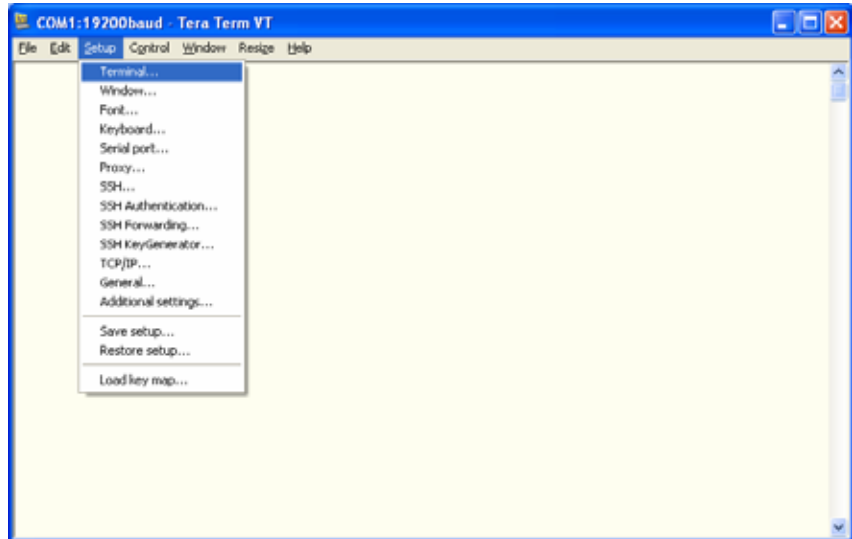

Figure 6-19: Selecting the Terminal Setup
21. Select **S**etup, then click **T**erminal (Figure 6-19).